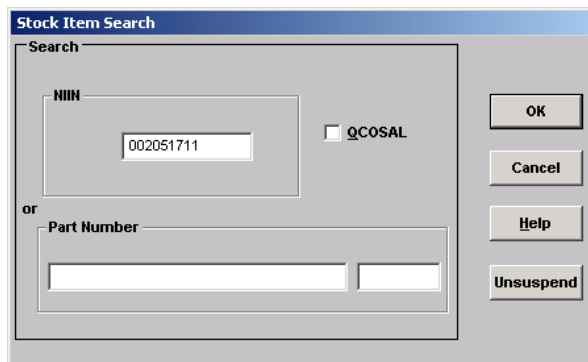

Figure 7.2
7.1.1 The **Stock Item Search** window (Figure 7.2) allows the user to search for stock items in the Stock Item Table (SIT). Enter the **NIIN** or **Part Number** and select the **COSAL** type. Click **OK**.